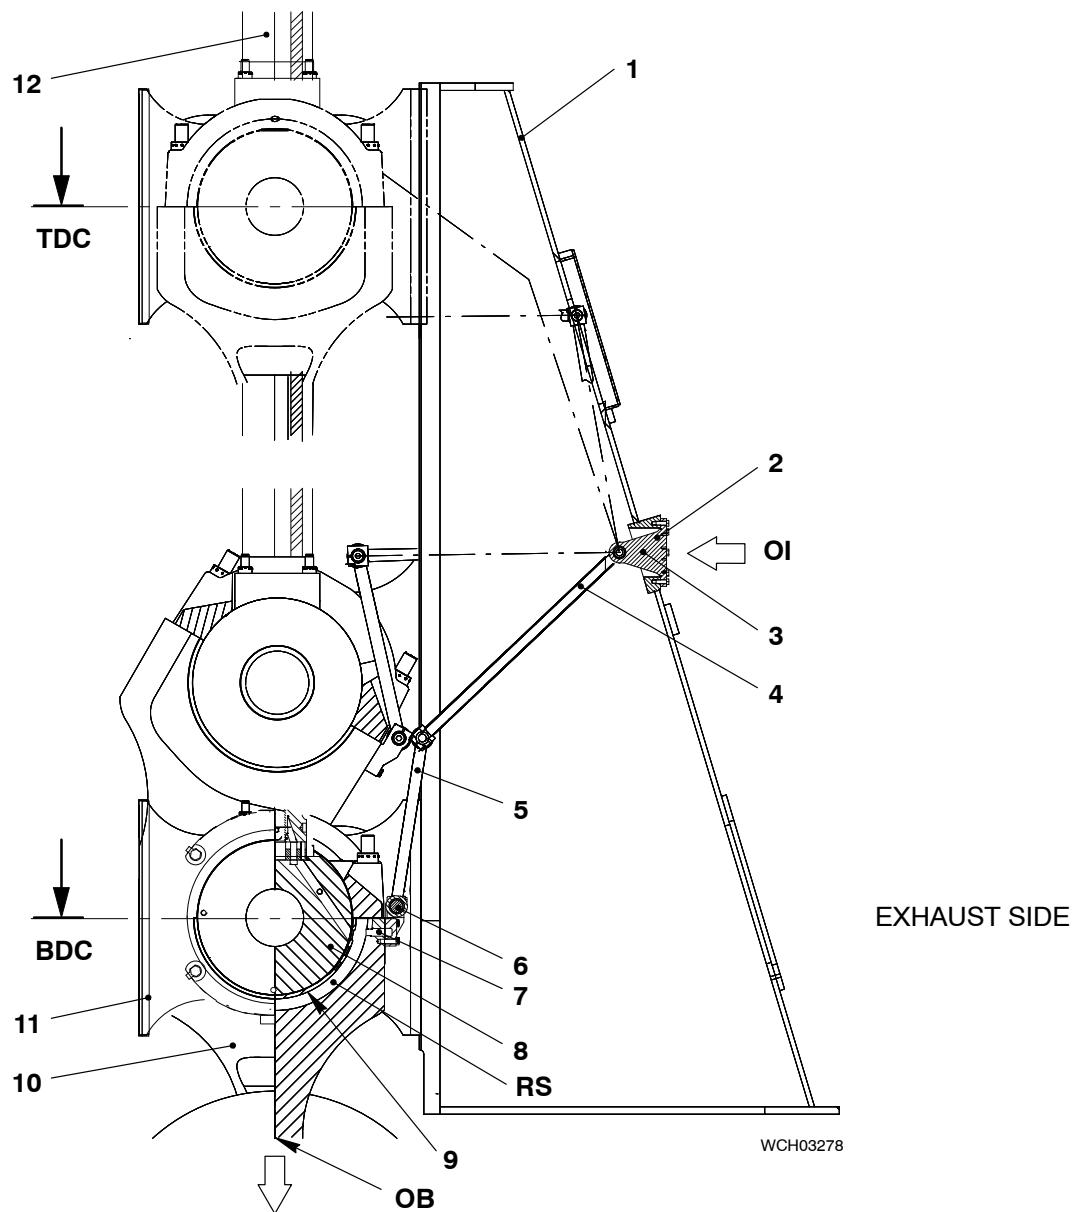
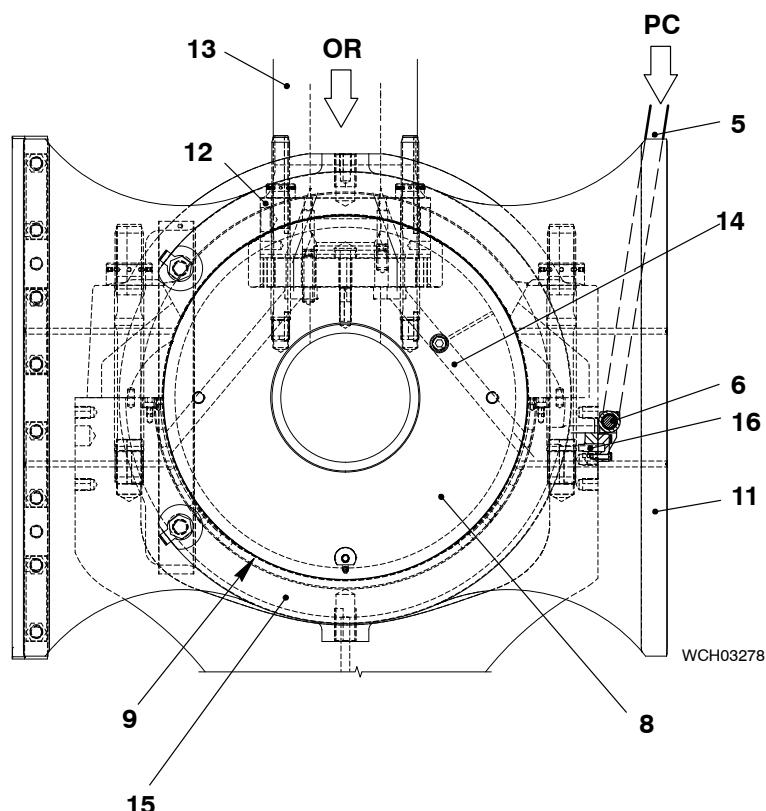

Fig. 1: Crosshead Lubrication and Piston Cooling – Location
Fig. 2: Cross-section through Crosshead
The crosshead lubricating oil flows from the oil inlet (OI, Fig. 1) through the support (2), the bottom lever (4) and the top lever (5) to the connection piece (6). The connection piece is attached to the connecting rod (10). The oil enters the ring space (RS) through the bore (7). The crosshead pin (8) is lubricated through bores in the top end bearing shell (9). The oil flows through the bore (OB) through the connecting rod (10) to the bottom end bearing.
Bearing oil flows from the oil inlet pipe (OI, Fig. 1 and Fig. 2) through the support (2) the bottom lever (4) and the top lever (5) to the connection piece (6). The oil flows through the bore (7) into the ring space in the crosshead pin (8), through bores in the top end bearing shell (9). The oil flows through the outer part of the oil pipe (13) through the piston rod (12) to the piston.